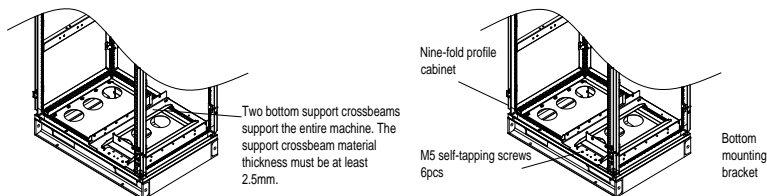

Figure 4-13 Bottom mounting bracket
2	Fix the bottom support crossbeams and mounting bracket in the cabinet. (See Figure 4-13.)
2. Fix the bottom support crossbeams and mounting bracket. See Figure 4-13.
- B. Fix the mounting bracket to the nine-fold profile cabinet frame base with six M5 self-tapping screws, as shown in Figure 4-13. For details about mounting bracket dimensions, see Figure C-14 and Table C-7.